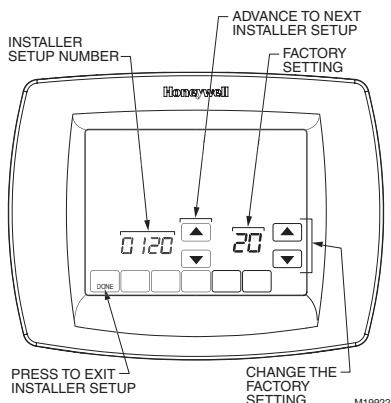

Fig. 23. Installer Setup Number and factory setting selection locations.
4. The Installer Setup Number is displayed in the lower left. It is a four-digit code beginning with zero. The factory setting or other choice selection is displayed in the lower right. See Fig. 23. This is a two-digit code shown in the Option column of Table 4.
1. Advance to the next Installer Setup Number by pressing the up and down arrow keys to the right of the four-digit Installer Setup Number. See Fig. 23.
2. Change the factory Setting Options by pressing the up and down arrow keys to the right of the two-digit code selection. See Fig. 23.